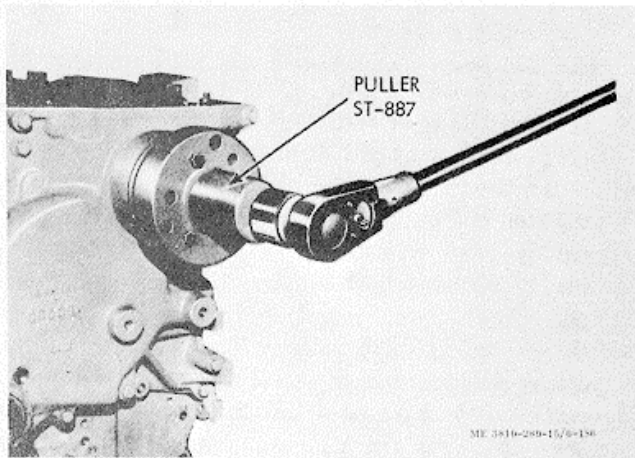

Figure 3-178. Crankshaft hub removal.
(4) Using ST-887 flange puller, pull hub from crankshaft, figure 3-178.